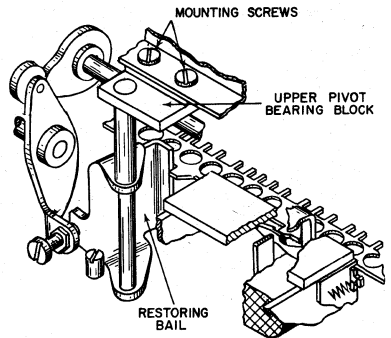

Figure 9
6. Loosen the mounting screws and position the upper pivot bearing block for the restoring bail shaft so the restoring bail is vertical (Figure 9). This can be done by pivoting the restoring bail manually and seeing that it touches all of the latched permutation bar restoring projections at the same time. Tighten the mounting screws.